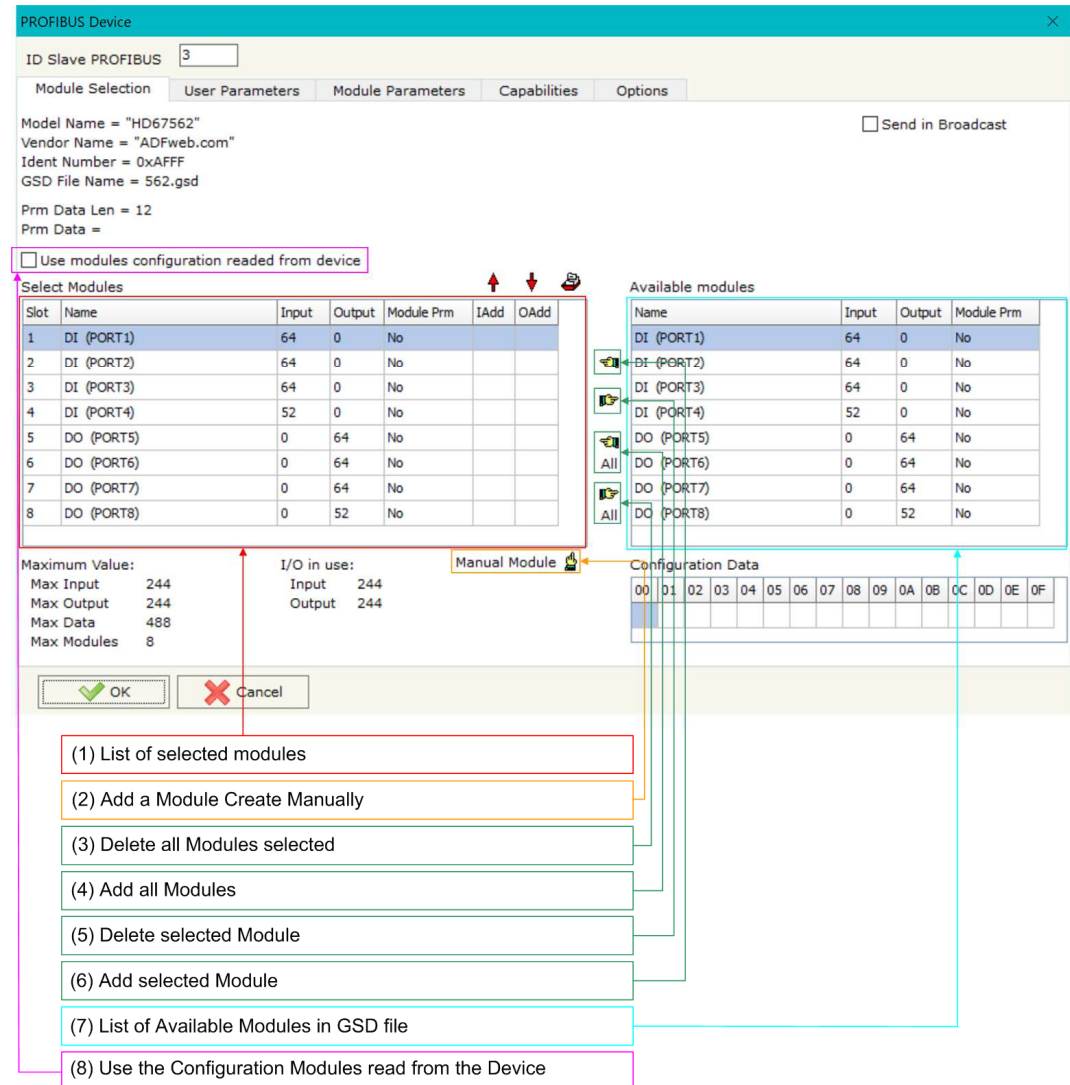

Figure 7: "PROFIBUS Device - Module Selection" window
The section "Module Selection" is used to select which Modules are present in the Slave (Fig. 7).
- Check the list of the Modules selected ("Select Modules") (Fig. 7, point (1)) and the list of Modules Available in GSD file ("Available Modules") (Fig. 7, point (7));
- Add a Module from the list of GSD file (Fig. 7, point (6));
- Remove a Module from selected list (Fig. 7, point (5));
- Add all Modules present in the GSD file (Fig. 7, point (4));
- Remove all Modules from selected list (Fig. 7, point (3));
- Insert a Module not present in the GSD file ("**Manual Module**") (Fig. 7 point (2)). For more info see the section "Manual Module" below;
- Enable the read of configuration directly from the PROFIBUS Slave ("**Use module configuration readed from device**") (Fig 7, point (8)). If this option is enable the configuration of the modules is discarded and the device read the correct configuration directly to the PROFIBUS slave.
To modify a Module inserted manually, is necessary to do a double click on the module to change in the "Select Module" list (Fig. 7, point (1)). It is possible to change only the module inserted manually.